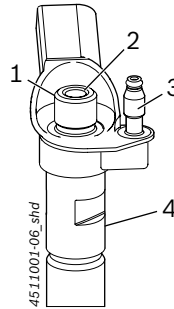

Fig. 7: Piezo CRI
i On most piezo CRIs the longest side of the chamfer, and thus the greatest wall thickness, is on the side with the return (Fig. 7, item 3).